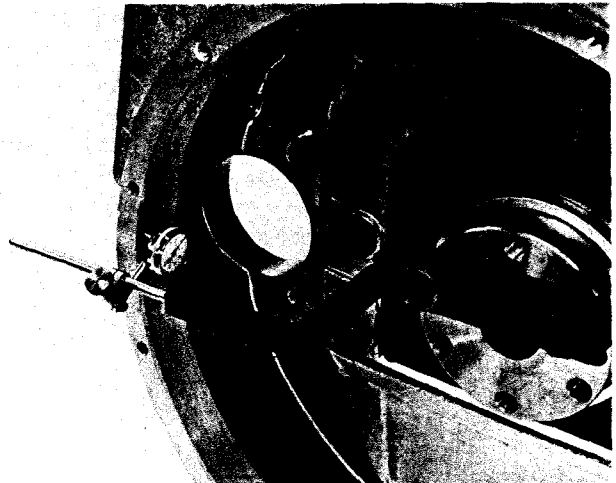

Fig. 14-44, (N114275). Indicating flywheel housing bore
1. Draw chalk marks at 12, 6, 9 and 3 o'clock. Attach ST-112 and a dial gauge to crankshaft flange. Fig. 14-44.